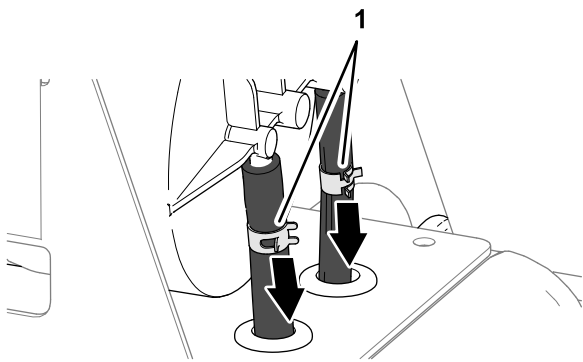

Figure 84
3. Loosen the 2 hose clamps that secure the hoses to the fittings of the carbon canister (Figure 84).